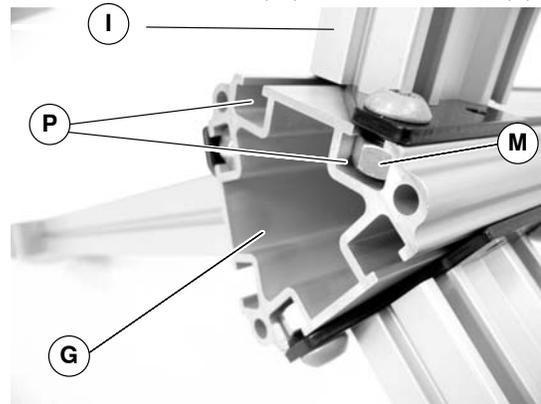

Figure 5
4. Align the leg tube end plate hex nuts (M of Figure 5) with the t-slots (P) on one side of the trileg post (G). Slide the hex nuts (M) into the T-slots (P).